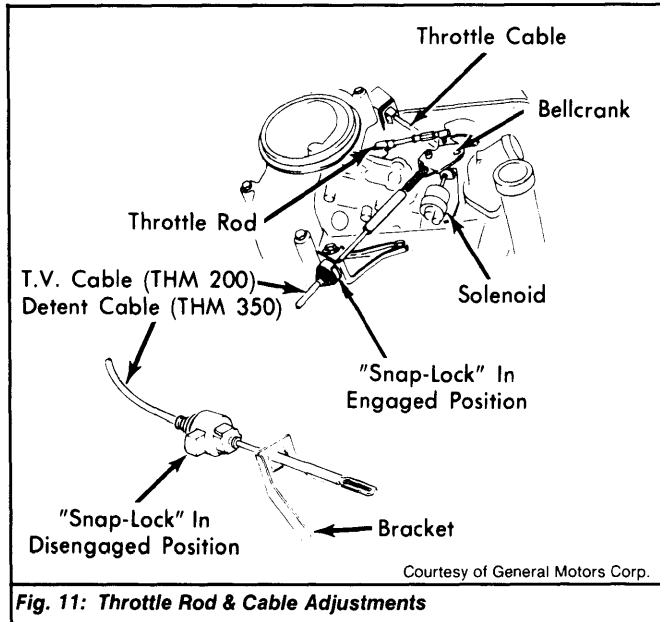

Fig. 11: Throttle Rod & Cable Adjustments
- 1) Turn engine off. On cruise control equipped models, remove clip from cruise control rod. Remove rod from bellcrank. See Fig. 11.
Models With THM 200 Transmission - With engine off, remove throttle rod from bellcrank. Push snap-lock to disengaged position. See Fig. 11. Rotate bellcrank to full throttle stop and hold there. Push in snap-lock until it is even with cable end fitting. Release bellcrank. Reconnect throttle rod.
Models With THM 350 Transmission - With engine off, remove throttle rod from bellcrank. Push "snap-lock" to disengaged position. See Fig. 11. Rotate bellcrank to full throttle stop and hold there. Push in "snap-lock" until it is even with cable end fitting. Release bellcrank. Reconnect throttle rod.